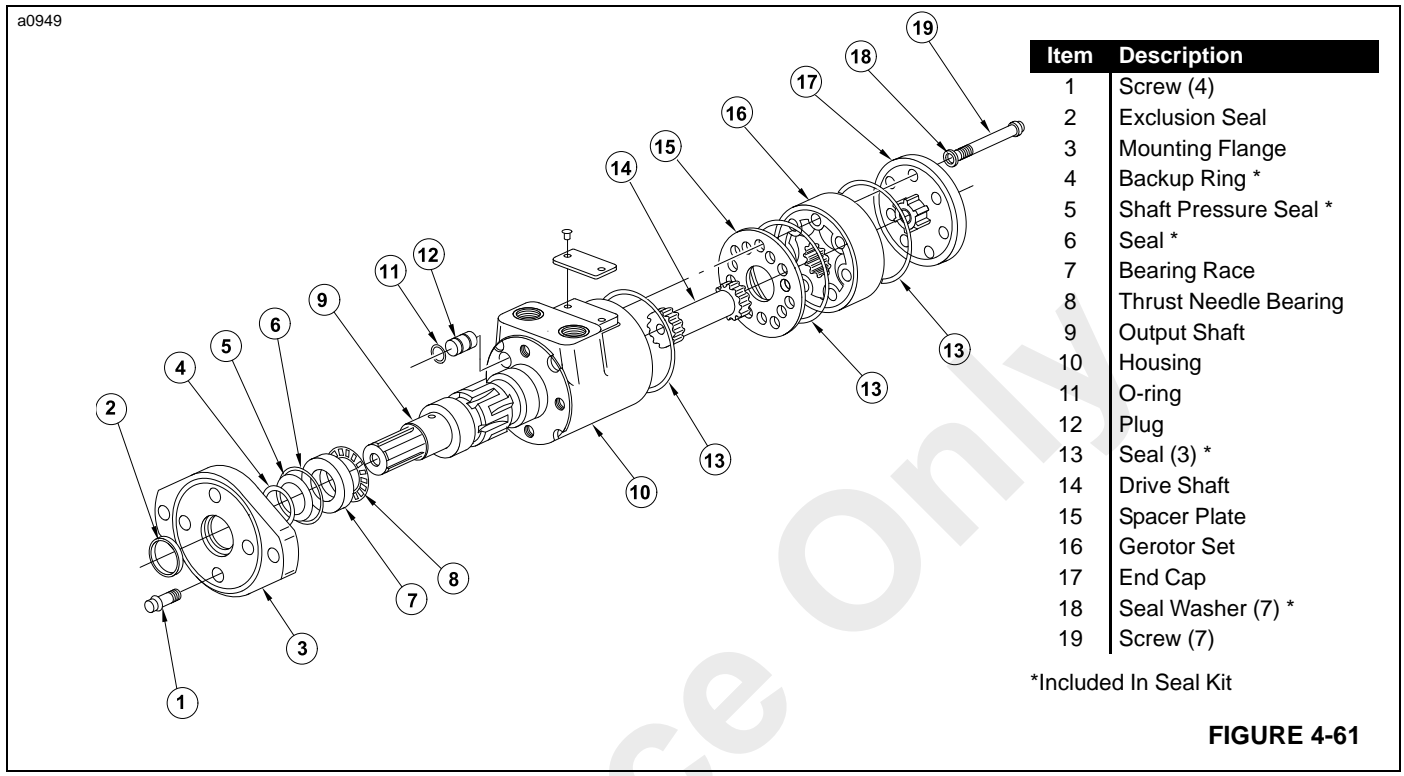
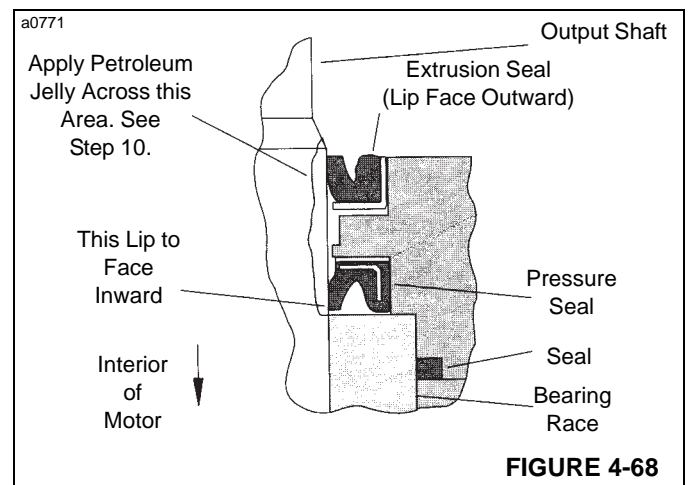
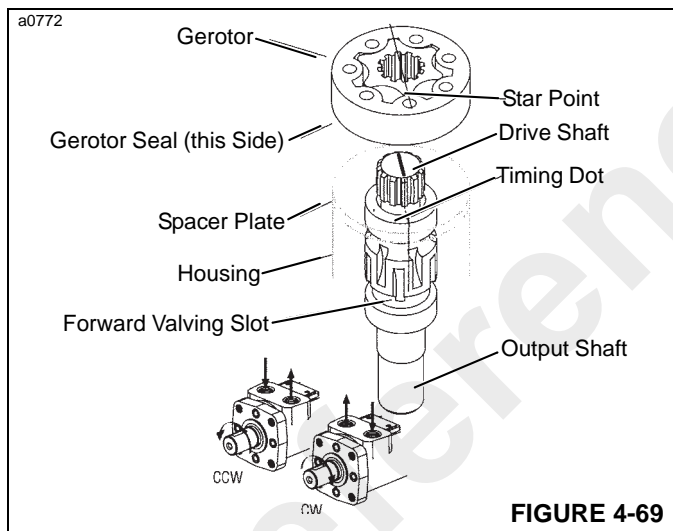
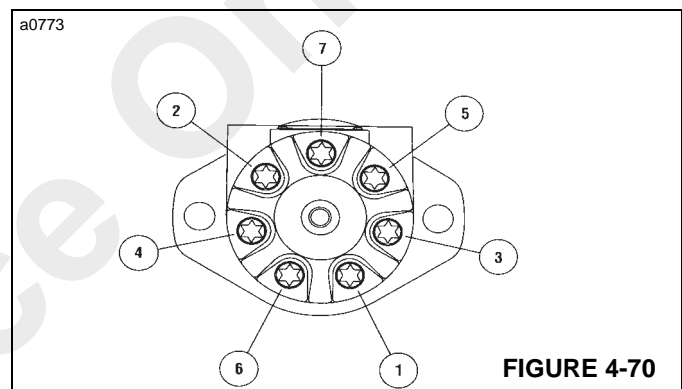

FIGURE 4-61
FIGURE 4-68
FIGURE 4-69
FIGURE 4-70
2. Remove seven cap screws (19, Figure 4-61) and seal washers (18).
3. Remove end cap (17). Remove and discard seal (13) from the end cap.
4. Remove gerotor (16). Remove and discard seal (13) from the gerotor.
5. Remove drive shaft (14).
6. Remove spacer plate (15).
7. Remove seal (13) from housing (10).
8. Remove output shaft (9) from housing (10).
9. Remove needle thrust bearing (8) from shaft or housing.
12. Carefully remove flange (3, Figure 4-61) from housing (10).
14. A metal plug (12, Figure 4-61), with O-ring (11), plugs a machined hole in the housing. It is not necessary to remove the plug and replace the O-ring unless leakage occurs around the plug. To remove the plug, insert a 5 mm (0.187 in) hex key through the port opening and push it out.
1. If plug (12, Figure 4-61) was removed, lubricate the new O-ring (11) and install on the plug. The plug has two O-ring grooves, but requires only one O-ring in the groove closest to the end of the plug. Push the plug into the housing (10) until it is flush with the housing. Be careful not to damage the O-ring.
7. Install O-ring (6, Figure 4-61) into groove in flange (3).
8. It is recommended to apply a light coat of Loctite Primer NF in tapped holes of housing (10). Allow the primer to air dry for at least 1 minute. Do not force dry with air jet; the primer will blow away.
10. Before installing the flange and seal assembly over shaft (9, Figure 4-61), place a protective sleeve or bullet over the shaft. Then lubricate the space between exclusion seal (2) and pressure seal (5), as well as the lips of both seals (see Figure 4-68).
14. Install O-ring (13, Figure 4-61) in the housing groove. Avoid twisting the seal.
15. Install drive shaft (14, Figure 4-61). Use a felt tip pen to mark one drive tooth. Align this mark with the timing dot on the output shaft (Figure 4-69).
16. Install spacer plate (15).
17. Install seal (13) in gerotor seal groove. Carefully place gerotor on spacer plate, seal side toward the spacer plate. Align any star point with tooth marked on drive shaft (Figure 4-69).
18. Rotate gerotor (16, Figure 4-61) to line up with bolt holes. Be careful not to disengage star from drive or disturb the gerotor seal.
19. Install seal (13) in end cap (17). Carefully place the end cap on gerotor (16).
20. Install cap screws (19) and seal washers (18) in end cap (17). Tighten the cap screws to 7.4 Nm (40 lb-in). Make sure the seal washers are properly seated. Then, tighten the cap screws to a torque of 27-29 Nm (235-250 lb-in) in the sequence shown in Figure 4-70.